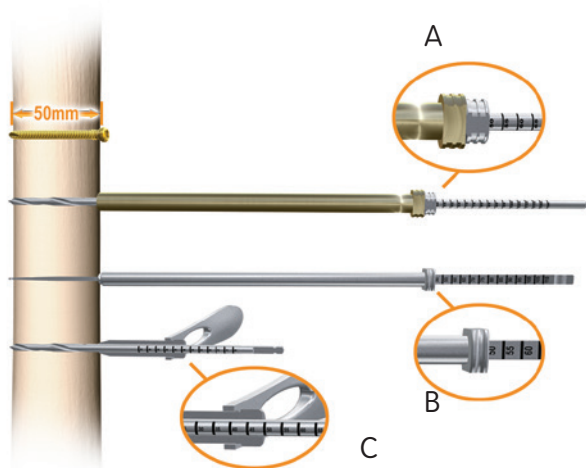

Figure 26
- The Gold 9.0mm Drill Sleeve, silver 4.0mm Drill Sleeve and 4.0mm Long Pilot Drill* (Figure 26-A)
- The Screw Depth Gauge (71631189) (Figure 26-B)
- The Screw Length Sleeve (71674085) and 4.0mm Short Drill (71631117)** (Figure 26-C)